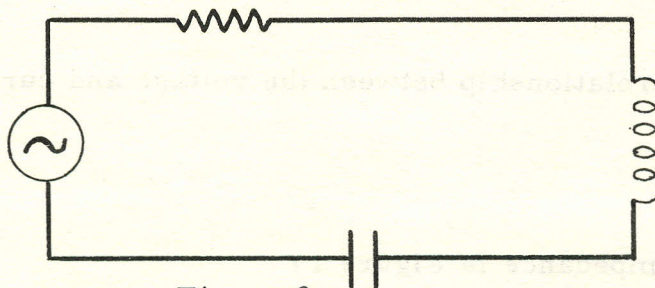

Figure 3
13. What is the resonant frequency of the circuit in Figure 3?